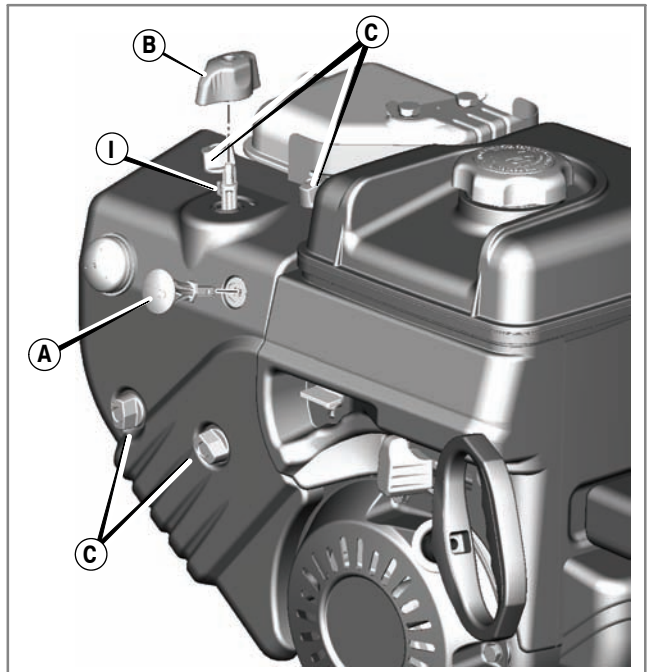
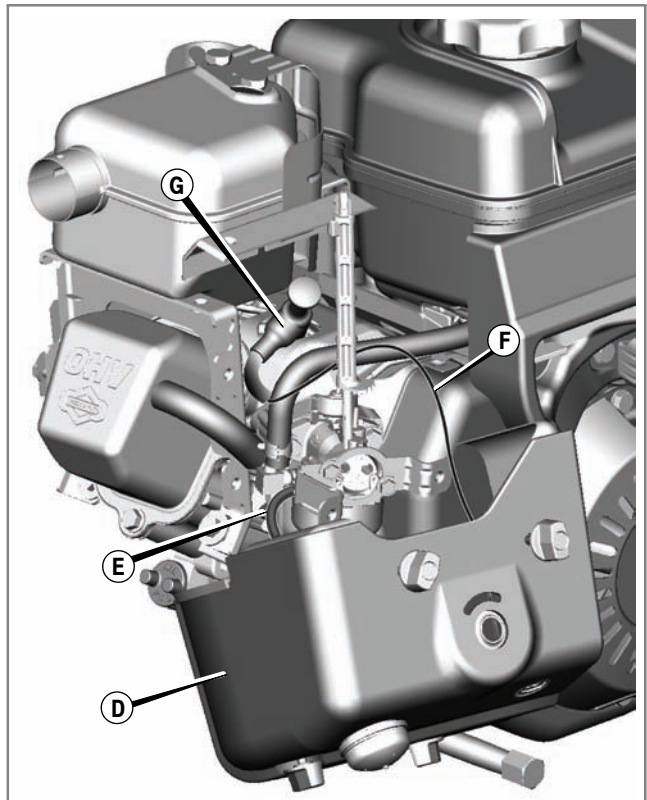

Figure 14
Figure 15
1. Remove the safety key (A). Keep the safety key out of reach of children. See Figure 14.
2. Grasp the choke control knob (B) and pull up to remove.
3. Remove the mounting screws (C).
4. Carefully remove the snow hood (D). Do not disconnect the primer hose (E) or the stop switch wire (F) (Figure 15).
5. The spark plug (G) can now be accessed.
7. Mount the snow hood to the engine and secure with the mounting screws (Figure 14).
8. Install the choke control knob onto the choke shaft (I).